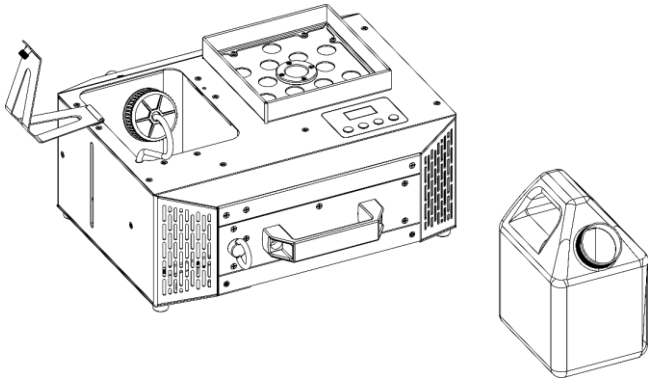

Fig. 42
- 06) Place the **fluid tank (02)** on a flat surface near the device, as shown in Fig. 42.